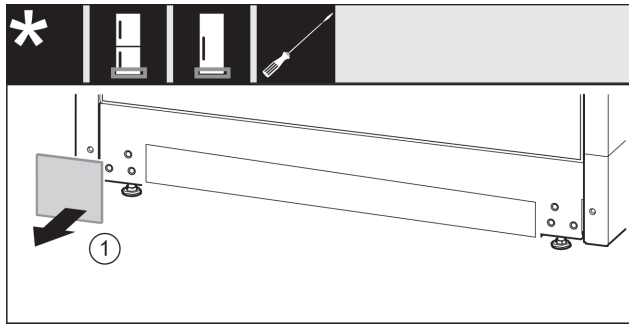

Fig. 10
- ▶ Remove the cover. Fig. 10 (1)